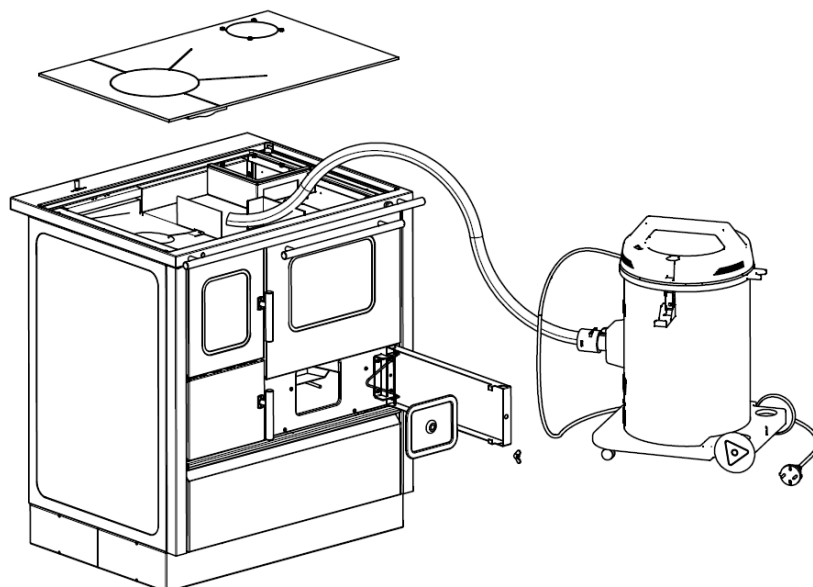

Figure 11
- Removal and thorough cleaning of the cooker plate are preferable to be done once in the season (Figure 11).